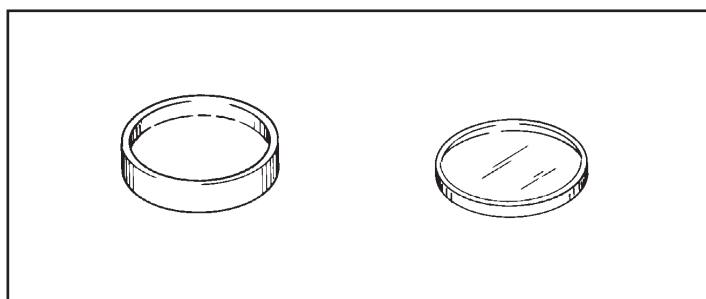

Figure 5.8
1. Place a pan and cover (see Figure 5.8) in a milligram balance (measuring accuracy of the balance must be ± 0.0001 gram) and record the weight.